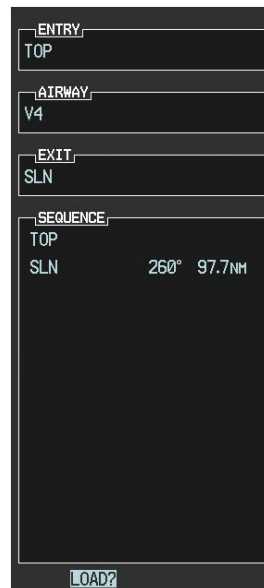

Figure 5-109 Ready to Load V4
- j) Press the **ENT** Key. The selected airway and exit are displayed, and the prompt "LOAD?" highlighted as in Figure 5-109.